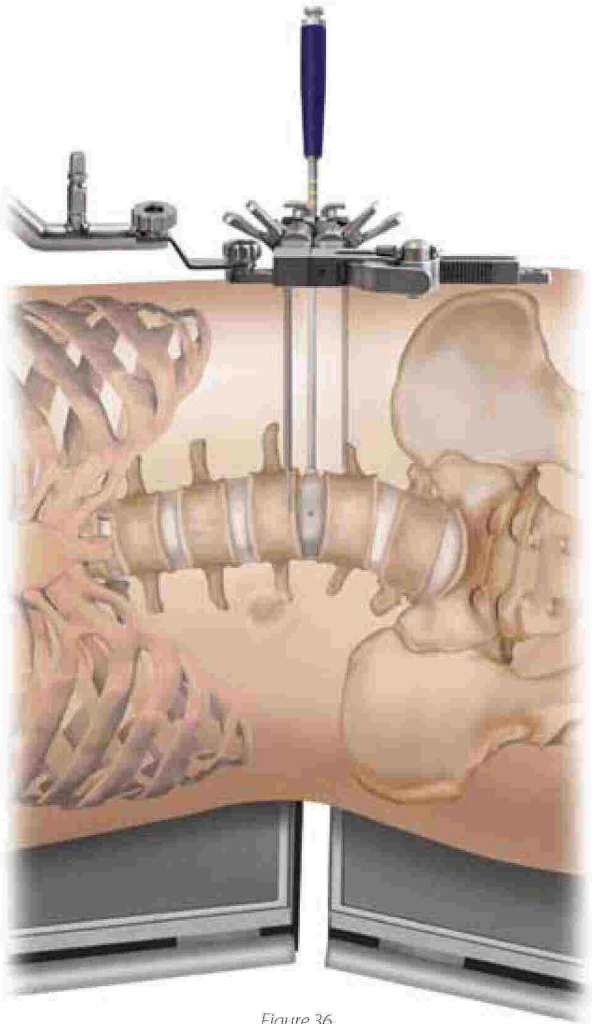

Figure 36
**Step 2** The Trial is passed through the Retractor and impacted into the disc space. A properly sized Trial should be centered with the spinous process and span the ring apophysis in order to reach fully across the vertebral body end plate (**Figure 36 and 37**).